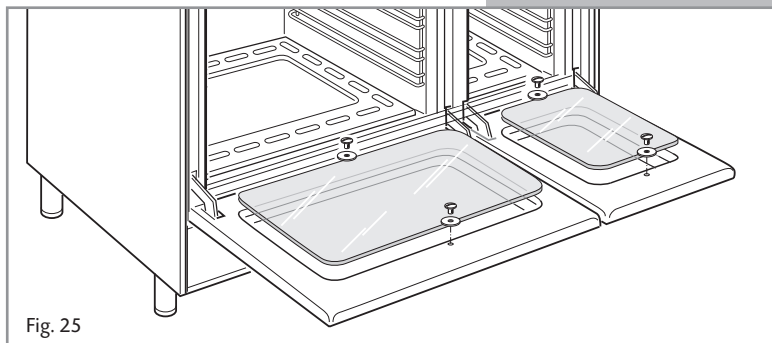

Fig. 25
- The inner glass door panel can easily be removed for cleaning by unscrewing the four screws (fig. 25).